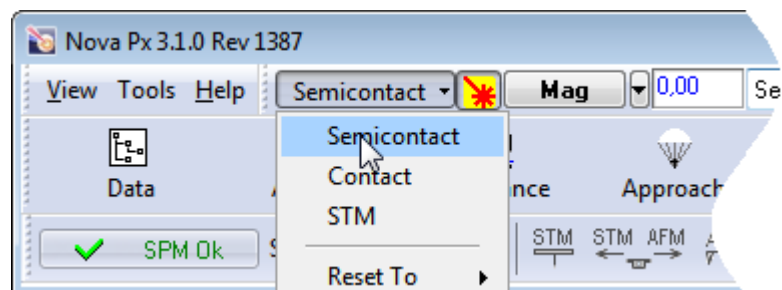

Fig. 12-48. Selecting controller configuration
1. In the controller configuration drop-down list, select **Semicontact** (Fig. 12-48).